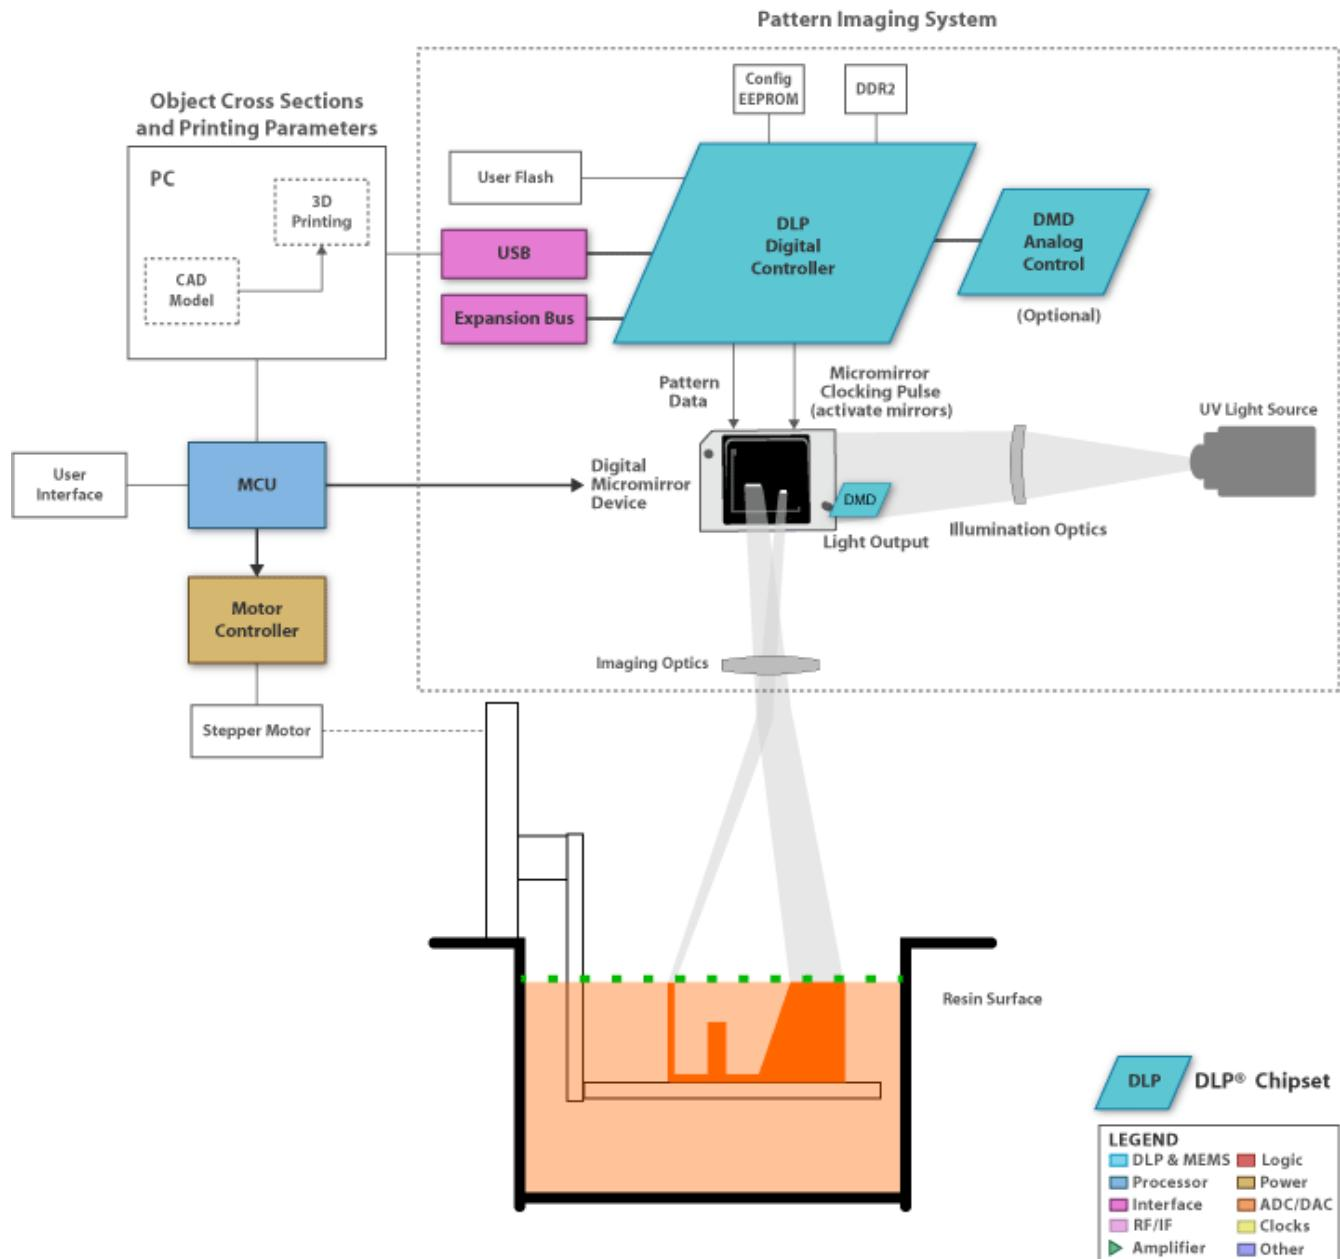

Figure 3. TIDA-00293 DLP Stereolithography System Block Diagram
- **Stereolithography (SLA).** This method (example system block diagram TIDA-00293 shown in Figure 3) creates a 3-D object one layer at a time by curing photoreactive resin with an ultraviolet (UV) light source into the shape of the desired 3-D object. After an XY layer of the resin is cured, an elevator platform will descend to allow the next layer to be processed. This technology generally allows for much finer resolution than FDM methods can achieve, since the UV light can be manipulated more precisely than the mechanical system controlling the FDM nozzle. Texas Instruments has been working hard to enable this type of 3-D printing with DLP® technology, and you can find a TI Design reference design for a DLP stereolithography 3-D printer here.